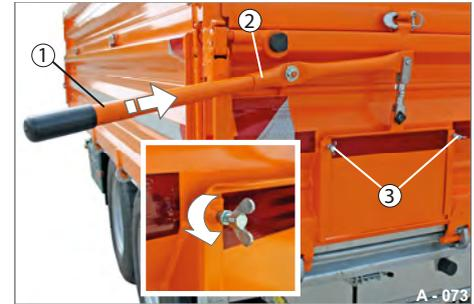

Fig. 95 Unlocking dosing slider
- ▶ Insert the operating lever (Fig. 95/1) into the transfer rod (Fig. 95/2).
- ▶ Unscrew both wing bolts (Fig. 95/3) - but not completely. The sliding flap can now be moved.